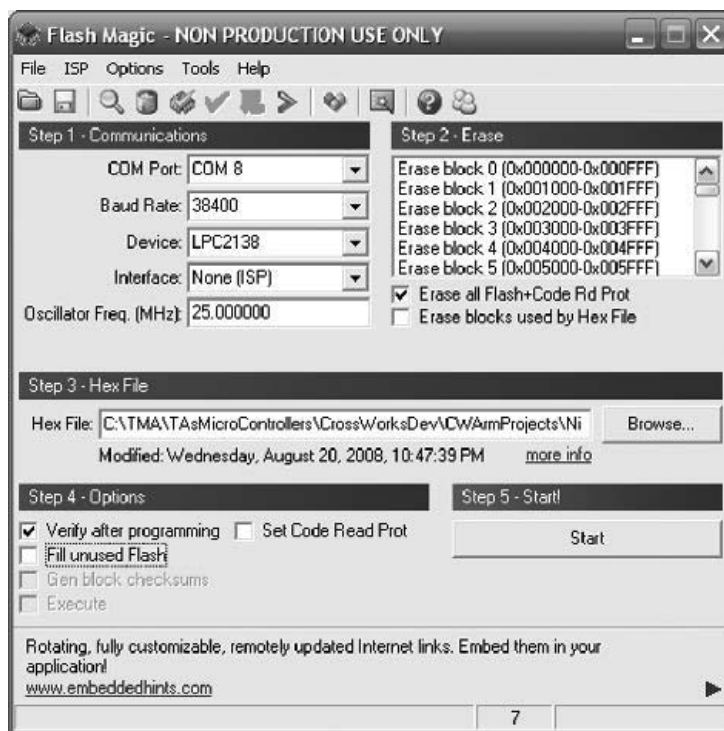

Figure 5 — This FlashMagic screen shot shows the settings for programming NimbleSig III.
In preparation for ISP programming, first install the free Internet download “FlashMagic” *Windows* software package onto the host computer.7 FlashMagic, which is designed to interface a *Windows* PC platform to the LPC2000 ISP protocol, will be used to program the NS3 module. FlashMagic also provides tools for viewing and erasing the MPU memory in addition to programming. A screen capture of the FlashMagic main window is shown in Figure 5.
- Execute the FlashMagic program. When it boots you should see a window similar to Figure 5.
- Set the Baud Rate to 38,400, Device LPC2138, Interface ISP, Oscillator 25 MHz as shown in Figure 5.